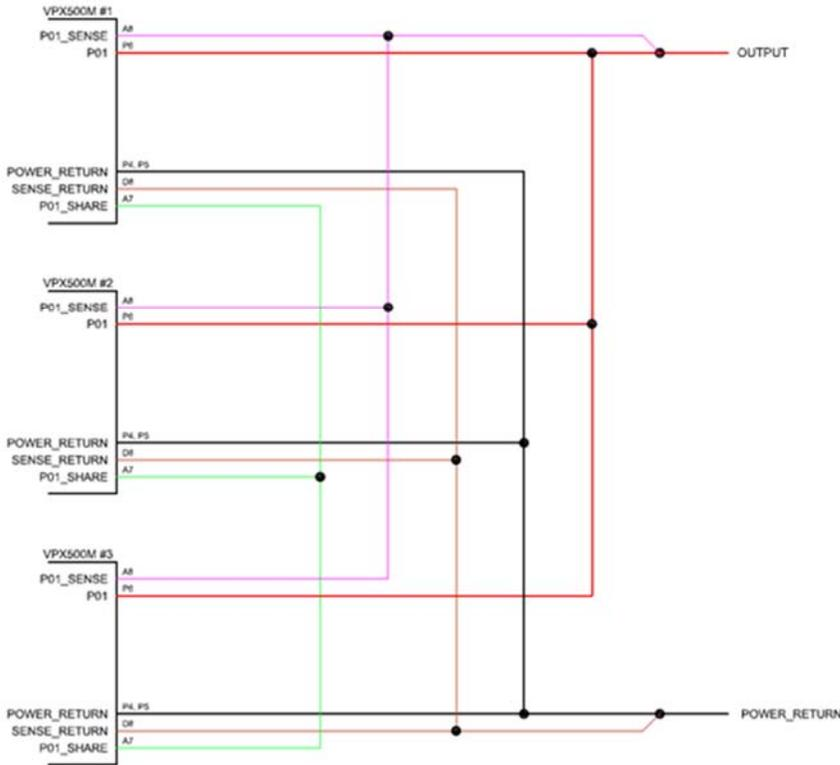

Figure 1: Connection Diagram for Parallel Operation of +5 V Output
Both main outputs (+5V/80A and +3.3V/15A) of Behlman’s VPXtra™500M1 series power supplies can be paralleled for higher output power and redundancy with one or more VPXtra™500M series power supplies. See Figure 1 below for connections required.
- Figure 1 Shows typical connection diagram for parallel operation of +5V output similar connections shall be made to parallel the +3.3V output